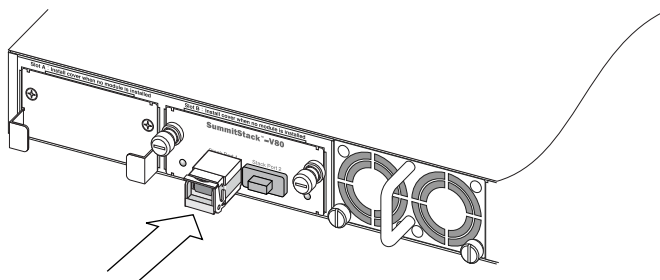

Figure 6: Installed QSFP Module
5. Push up on the handle to secure the QSFP module in the switch (see Figure 6).